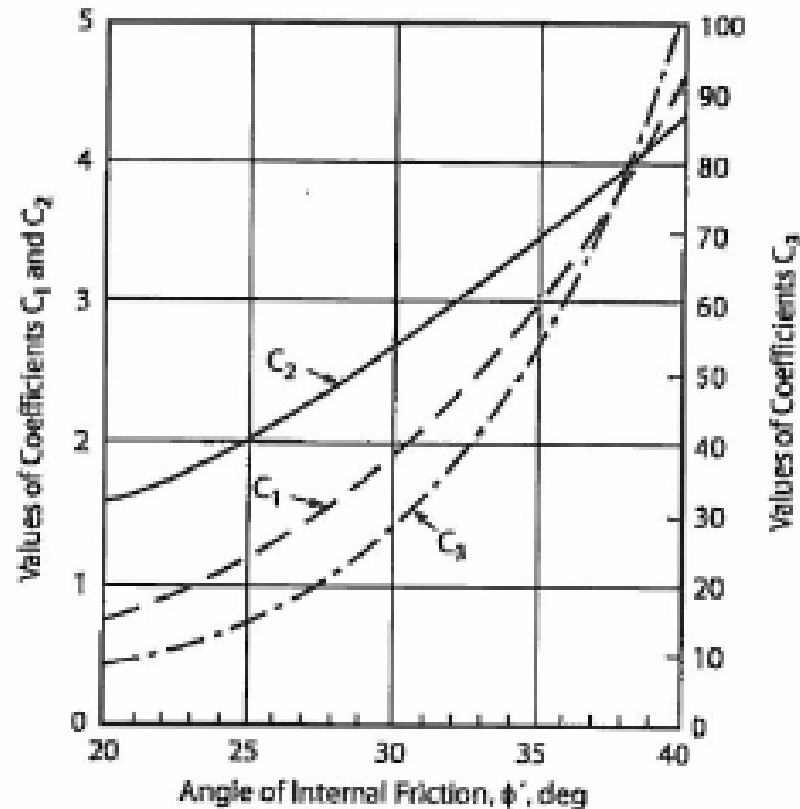

Figure 6.8.6-1—Coefficients as Function of  $\phi'$
- $C_1, C_2, C_3$  = coefficients from Fig.6.8.6-1 as function of  $\phi$